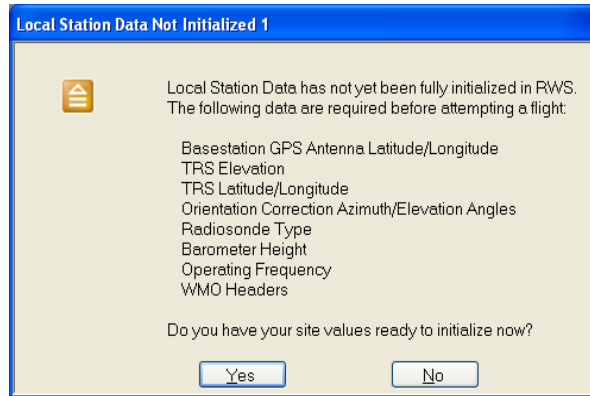
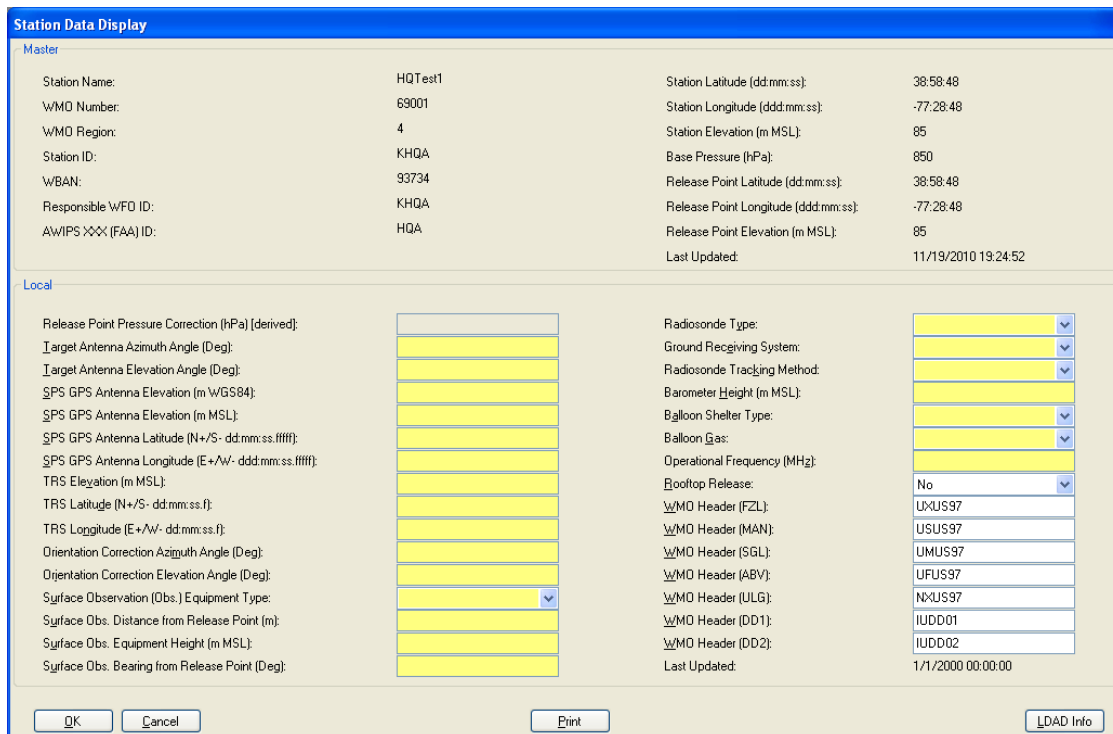

Figure B-18: Local Station Data Not Initialized 1 Window
Figure B-19: Station Data Display (Example Only)
1. If the *Local Station Data Not Initialized 1* window displays (Figure B-18), click **Yes** to open the Station Data Display (Figure B-19).
2. Enter the values recorded in Section B.2.5 for the field values missing from the Station Data Display (Figure B-19).